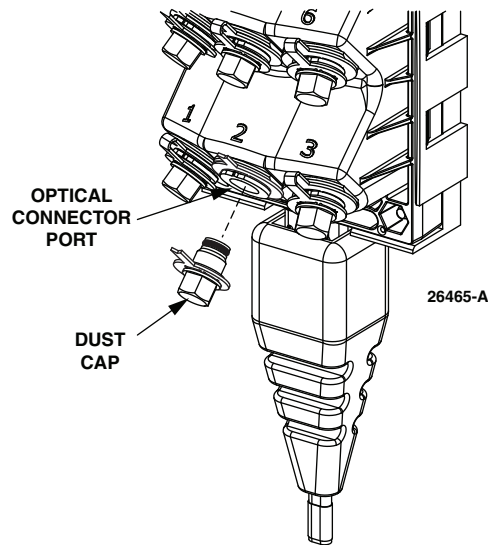

Figure 5. Optical Port Components
The basic components of the Mini-OTE optical port hardened adapter are shown in Figure 5. The dust cap threads into the adapter housing. An O-ring on the dust cap provides a tight seal when the dust cap is in place. The 216B key tool is required to remove the dust cap.
3. Use the 216B key tool (accessory) to unscrew the dust cap (see Figure 5) from the Mini-OPE optical port.
4. Thread the optical port dust cap into the optical port and tighten using the 216B key tool (see Figure 5).